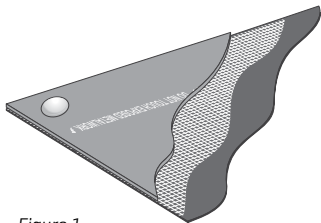

Figure 1.
- The EPR safety mat provides a simple means for mitigating these hazards via its unique three-layer design as shown in Figure 1
- The lower layer, is a special electrically-conductive elastomer that protects the central layer and provides electrical continuity to that layer, as shown in Figure 1